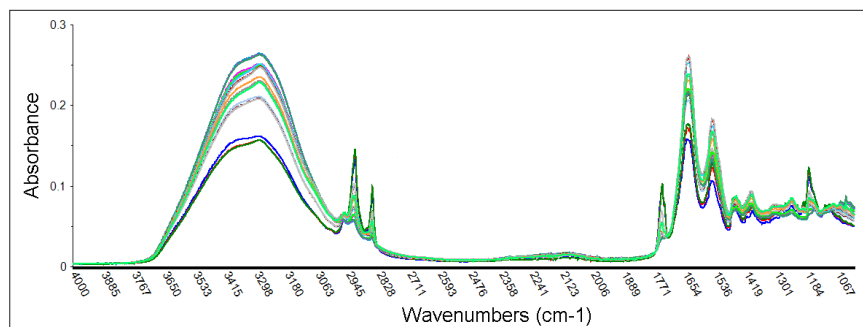

Figure 2. Variation of spectra obtained from the supermarket luxury branded beef burgers at wavelength range 4000–1000 cm^{-1} .
Figure 2. Red-edge excitation of eye lens proteins. Corrected fluorescence spectra of a normal and UV-irradiated porcine lens measured in a FLS980 spectrometer in 90° geometry. Excitation at 305 nm (A) caused a red shift of Trp emission by 13 nm and the appearance of a low-intensity, additional emission band at 440 nm ($I_{440}/I_{\text{Trp}} < 1$). While upon excitation at 315 nm (B) the Trp emission peak is shifted by 27 nm and the relative intensity of the addition band is increased ($I_{440}/I_{\text{Trp}} > 1$).
The supermarket burgers when analysed, pleasingly showed good correlation between the label values, however, Figure 2 clearly shows that these burgers contained significantly more fat at the cost of the protein levels than those prepared from the fresh meat.